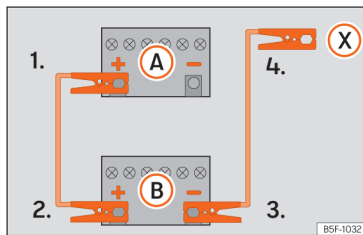

Fig. 190 Diagram of connections for vehicles without Start Stop system
- Vehicles without a Start-Stop system:* connect one end of the black jump lead to the negative terminal **-** of the vehicle providing the current **B** »» Fig. 190.